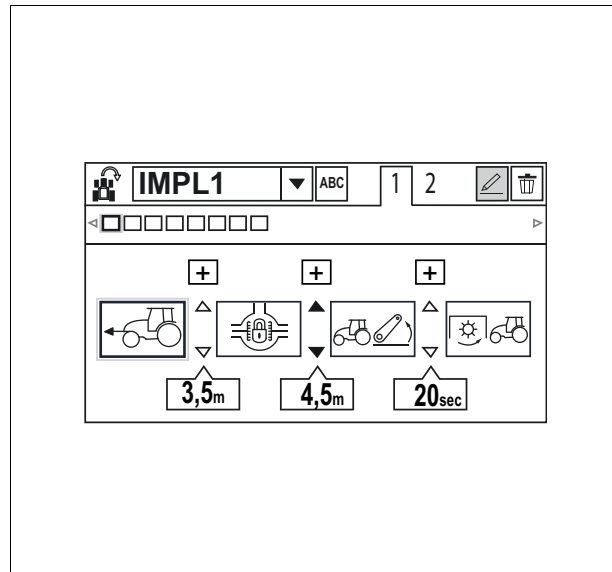

Fig. 10.
1. Bring up the program modification view *fig. 10*.